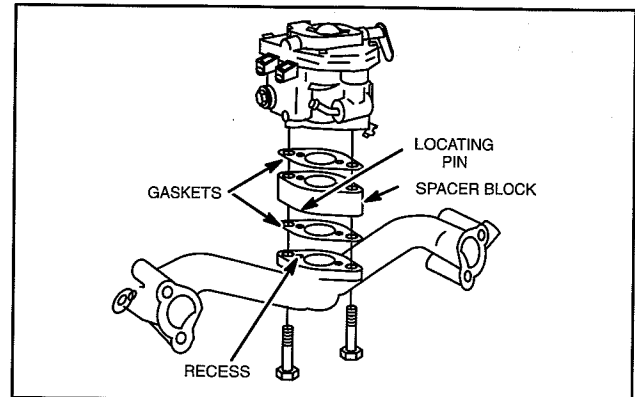

Fig. 117 – Install Carburetor
1. Assemble gaskets, spacer and carburetor to intake manifold, Fig. 117.